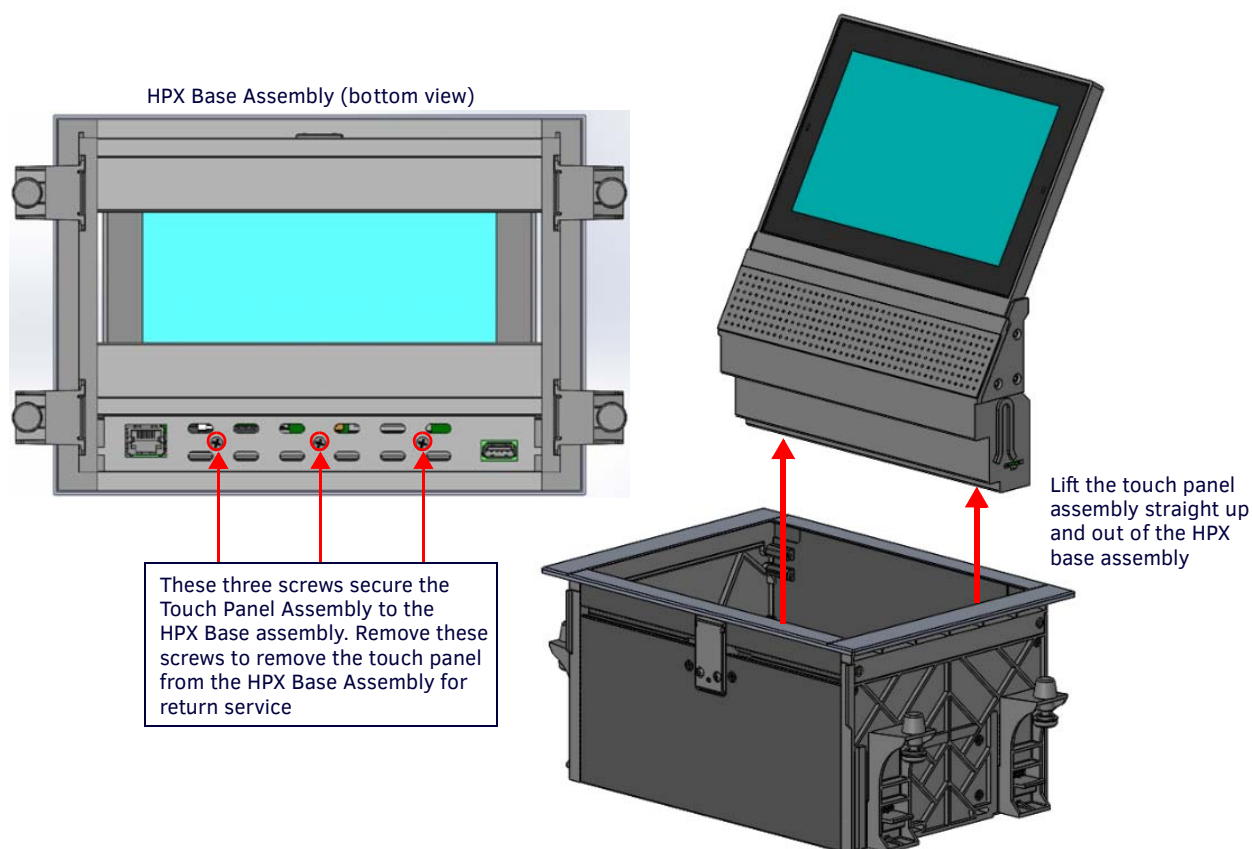

FIG. 15 Removing the Touch Panel from the HPX Base Assembly
The Touch Panel Assembly is secured to the HPX Base Assembly with three Philips-head screws. These Touch Panel Assembly screws are located on the bottom surface of the panel, and are accessible from beneath the Base Assembly (FIG. 15):
NOTE: FIG. 15 shows an HPX-MSP-7, but the screw locations and lift-up procedure are the same for the HPX-MSP-10.
1. From underneath the mounting surface, remove the three screws that secure the Touch Panel Assembly to the HPX Base (as shown in FIG. 15).